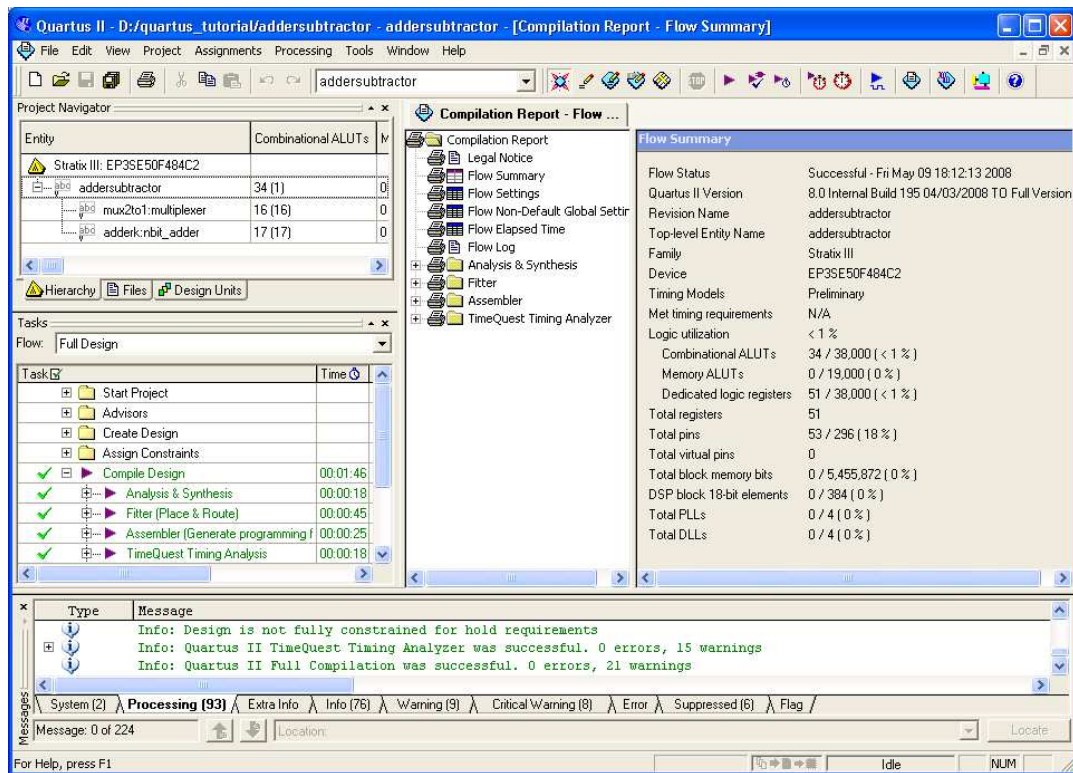

Figure 40: The main Quartus® II display.
The Quartus® II display contains several utility windows, which can be positioned in various places on the screen, changed in size, or closed. In Figure 18, which is reproduced in Figure 40, there are five windows.
1. To see the usefulness of this window, open the previously compiled project *quartus_tutorial\addersubtractor* to get to the window that corresponds to Figure 40.
The Tasks window is located below the Project Navigator window in Figure 40. As you have already observed, this window displays the compilation progress. It can also be used to edit and start different stages of the compilation.
At the bottom of Figure 40 there is the Message window, which displays user messages produced during the compilation process.